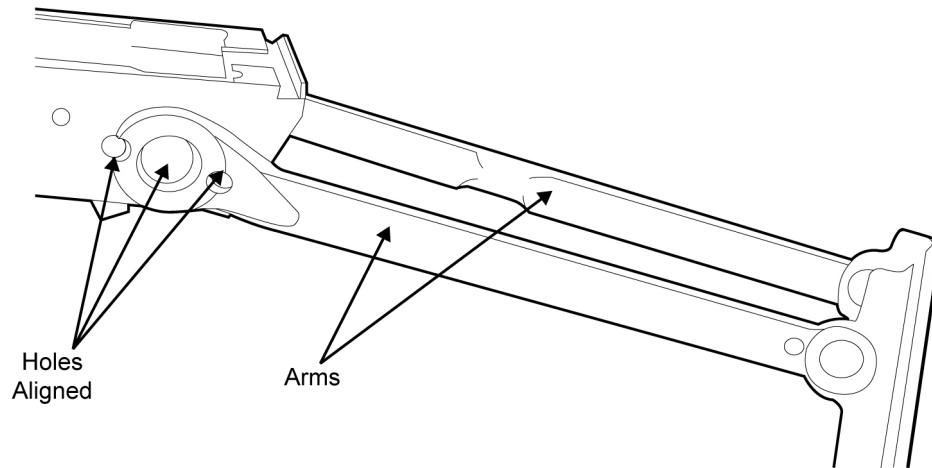

Figure 44. Buttstock Arms Installed with Holes Aligned.
- a. Install the folding buttstock arms on the end of the receiver in the extended position, aligning the holes in the arms of the buttstock with the holes in the sides of the rear of the receiver. Ensure that the long end of the shoulder rest is pointing down. Refer to Figure 44.